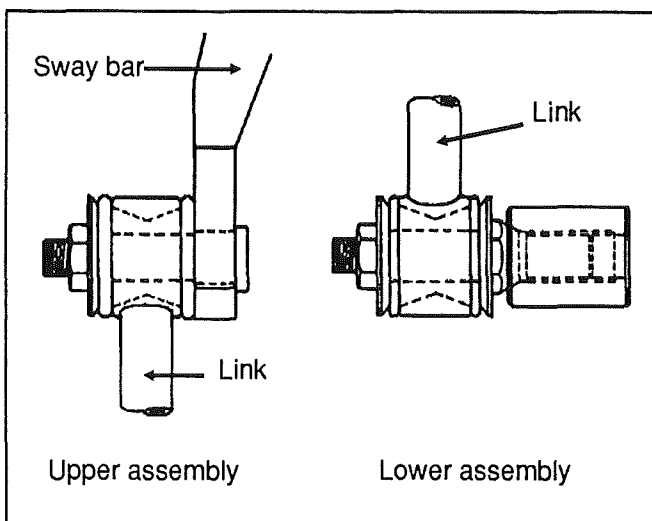

FIG. 22 - Sway bar line installation
1. After replacing bushings, ensure they are properly positioned on the sway bar, then position the sway bar under the vehicle. While supporting the sway bar, mount the sway bar to the vehicle subframe by positioning the four (4) sway bar bushing collars over the four (4) bushings, and secure them to the subframe with the eight (8) retaining bolts. Tighten them manually.
3. With the vehicle at normal ride height, replace the washer on the lower sway bar link stud, then install the links on each side (see figure 22).